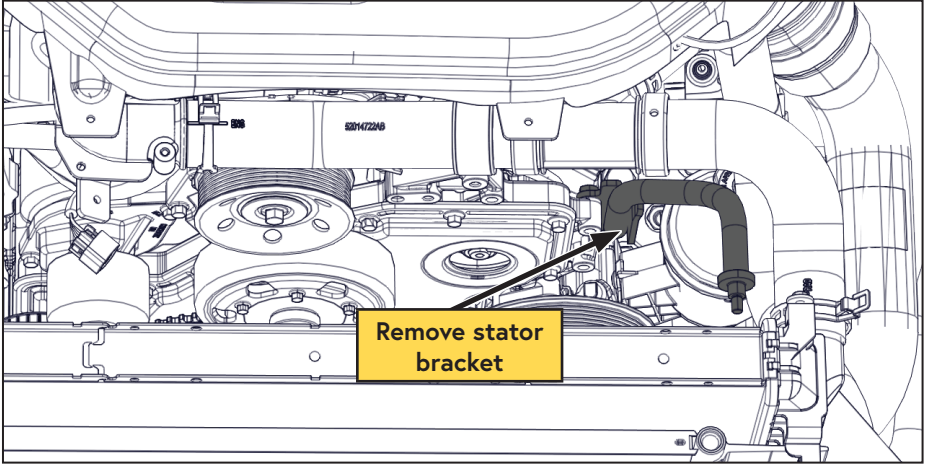

Figure 12 — Stator bracket
- Remove the upper driver side stator bracket. Set the bracket and hardware aside for re-installation later (Figure 12).